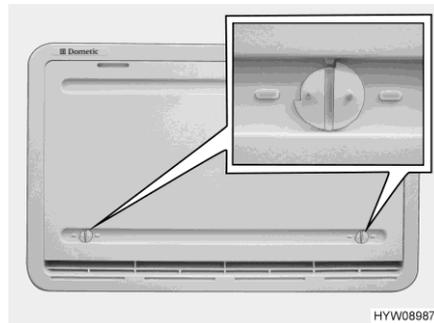

Fig. 147 Winter cover
If the refrigerator is to be operated at low external temperatures, the manufacturer recommends the use of a winter cover (Fig. 147) for the refrigerator ventilation grills.
- Open both locks (Fig. 147) (groove in horizontal position).